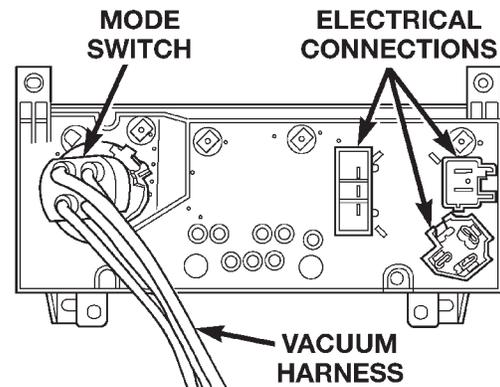

Fig. 47 Heater-A/C Control Connections
- (4) Pull the heater-A/C control assembly away from the instrument panel far enough to access the connections on the back of the control.
- (5) Unplug the wire and/or vacuum harness connectors from the back of the heater-A/C control (Fig. 47).
- (6) Remove the heater-A/C control from the instrument panel.